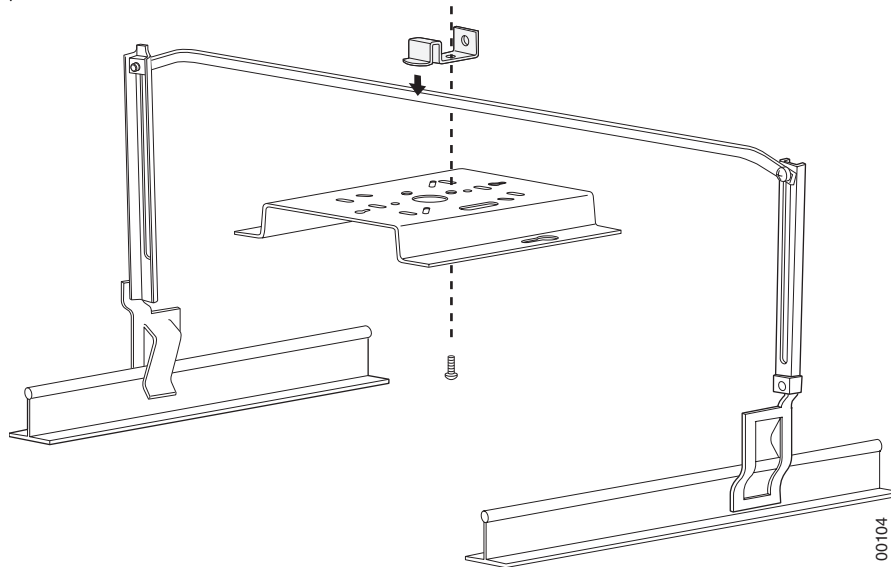

Figure 29: Attaching the Mounting Bracket to the Box Hanger
4. Attach the U-joint of the clip to the T-bar and snap in place (see Figure 29).
5. Pass the long end clip through the large center hole to the underside of the the mounting bracket clip and then attach the bracket to the clip using the supplied screw (see Figure 29 for orientation).